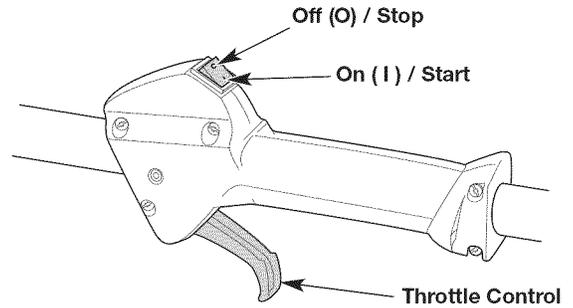
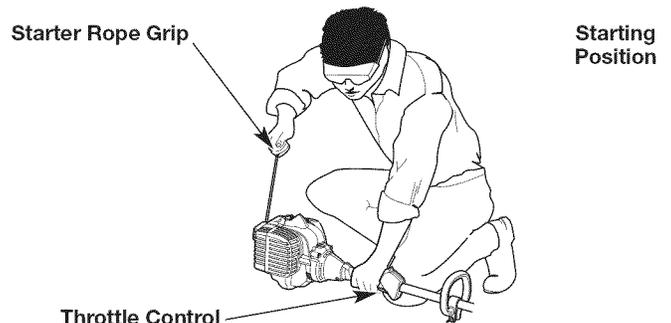

Fig. 9
Fig. 12
WARNING: Avoid accidentally starting the unit. To avoid serious injury, the operator and the unit must be in a stable position when pulling the starter rope (Fig. 12).
NOTE: There is no need to turn the unit on. The On/Off switch is in the ON (1) position at all times (Fig. 9).
5. Crouch in the starting position (Fig. 12).
6. Squeeze the throttle control (Fig. 9) and pull the starter rope with a controlled and steady motion **5 times** (Fig. 12).
2. Press and hold the On/Off switch in the OFF (O) position until the engine comes to a complete stop (Fig. 9).
NOTE: There is no need to turn the unit on. The On/Off switch is in the ON (I) position at all times (Fig. 9).
7. Squeeze and hold the throttle control (Fig. 9). Run the Speed Start™ accessory for 2 seconds.